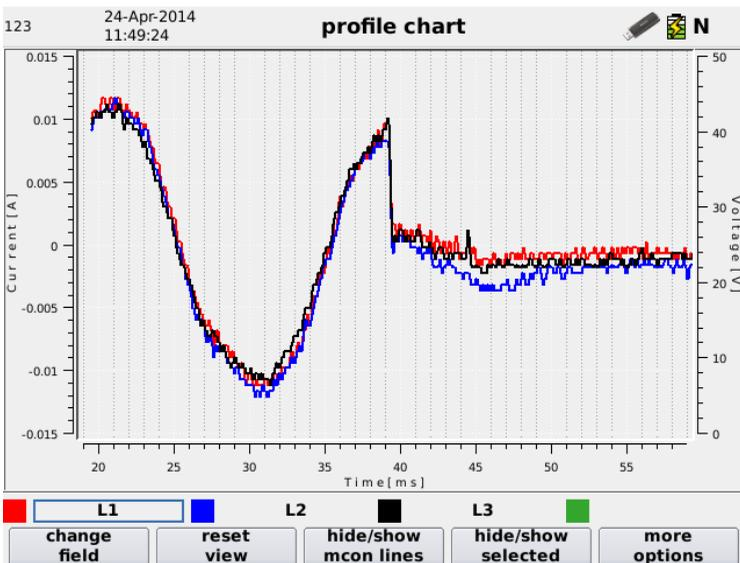

Figure 24b - AC Waveform
6. *Show MCon AC Data* - Displays the AC waveform at the point where the breaker opens or closes as shown in Figure 24b.
The point at which the primary current reaches zero on the AC waveform, is marked by a resulting change in the secondary current from a sine wave to an exponentially decaying 'tail' (as shown in Figure 24b).